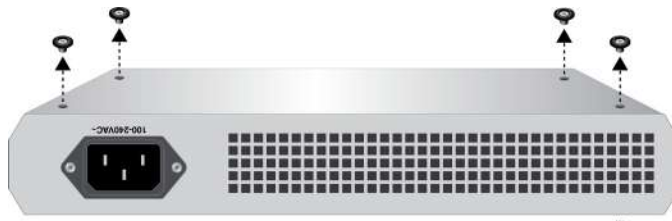

Figure 16. Removing the Rubber Feet
1. If the rubber feet were previously installed, turn the switch upside down and remove them as shown in Figure 16.